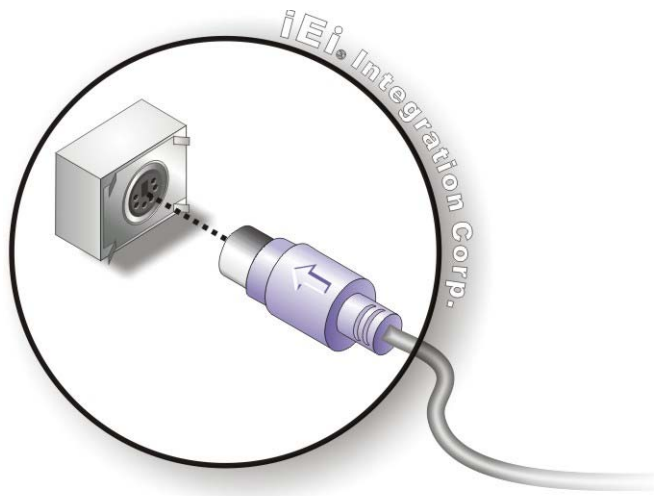

Figure 4-22: PS/2 Keyboard/Mouse Connector
**Step 2:** Insert the keyboard/mouse connector. Insert a PS/2 keyboard or mouse connector into the appropriate PS/2 connector on the external peripheral interface connector. See **Figure 4-22**.